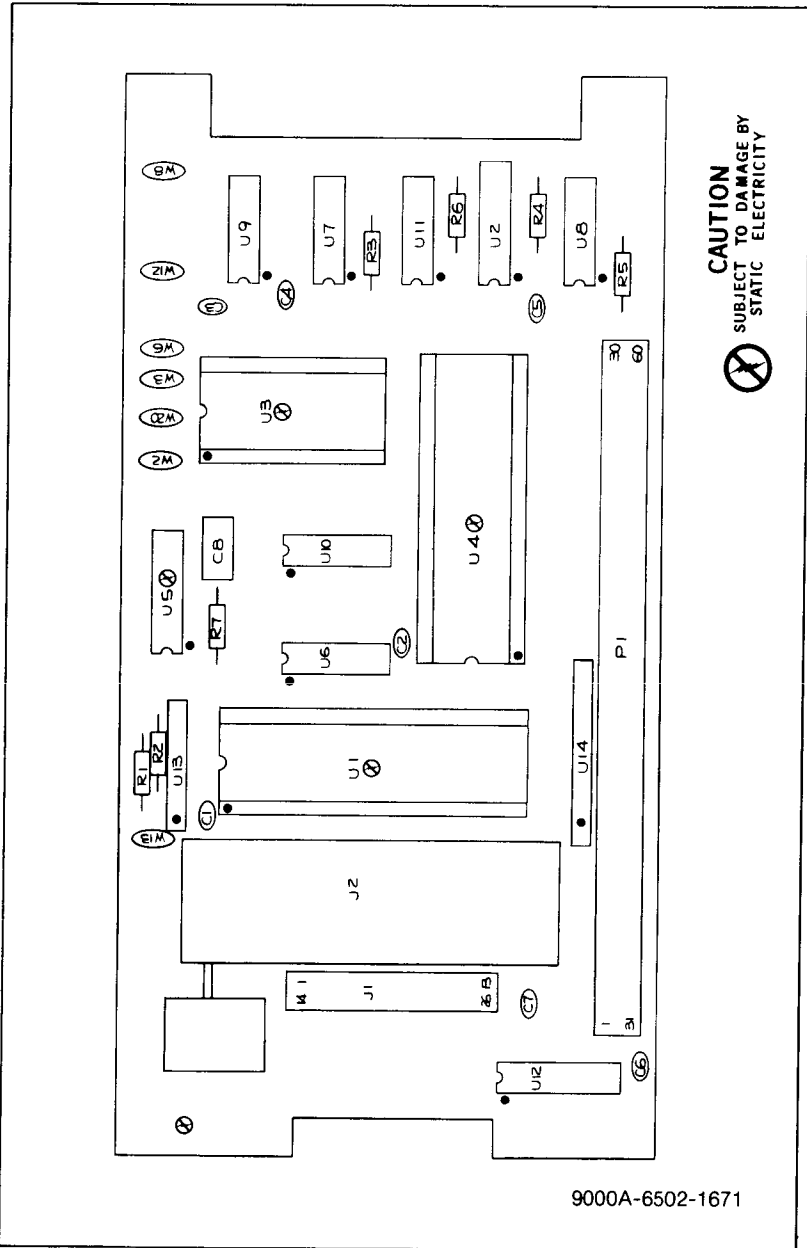

Figure 6-2. A15 Processor PCB Assembly
| A15 | ④ 9000A-6502 PROCESSOR PCB ASSEMBLY FIGURE 6-2 (9000A-6502-4071T) | 579482 | 89536 | 579482 | REF | | |